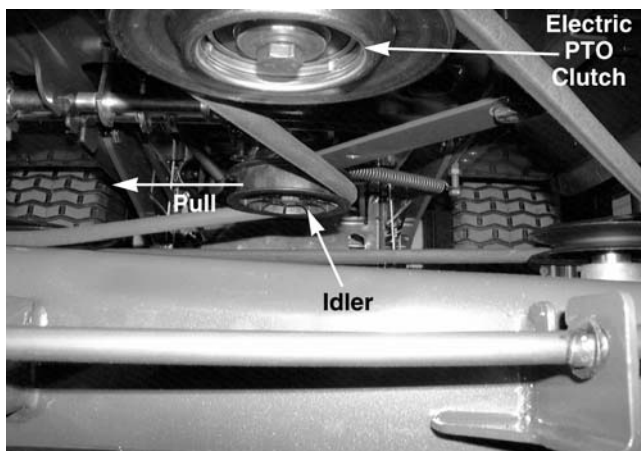

Figure 9-11.
1. Pull the lower deck belt flat idler and idler bracket towards the left side of the tractor, relieving the belt tension. See Figure 9-11.
4. Pull the PTO idler pulley and bracket towards the side discharge chute. See Figure 9-11.